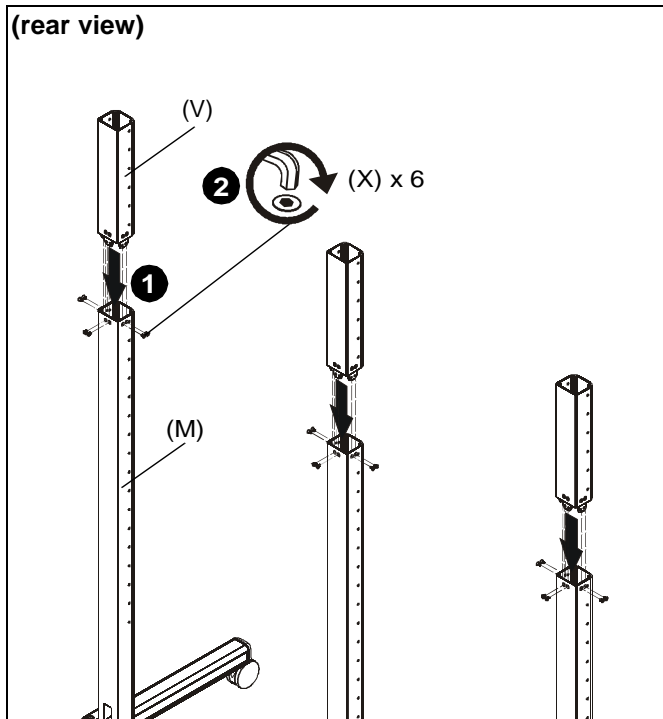

Figure 7
1. Insert one column add-on (V) to each column (M) making sure holes are lined up on each side. (See Figure 7)
2. Use 5/32" hex key (RR) and six 1/4-20 x 1/2" flat head cap screws (X) to secure each column add-on (V) to each column (M). (See Figure 7)